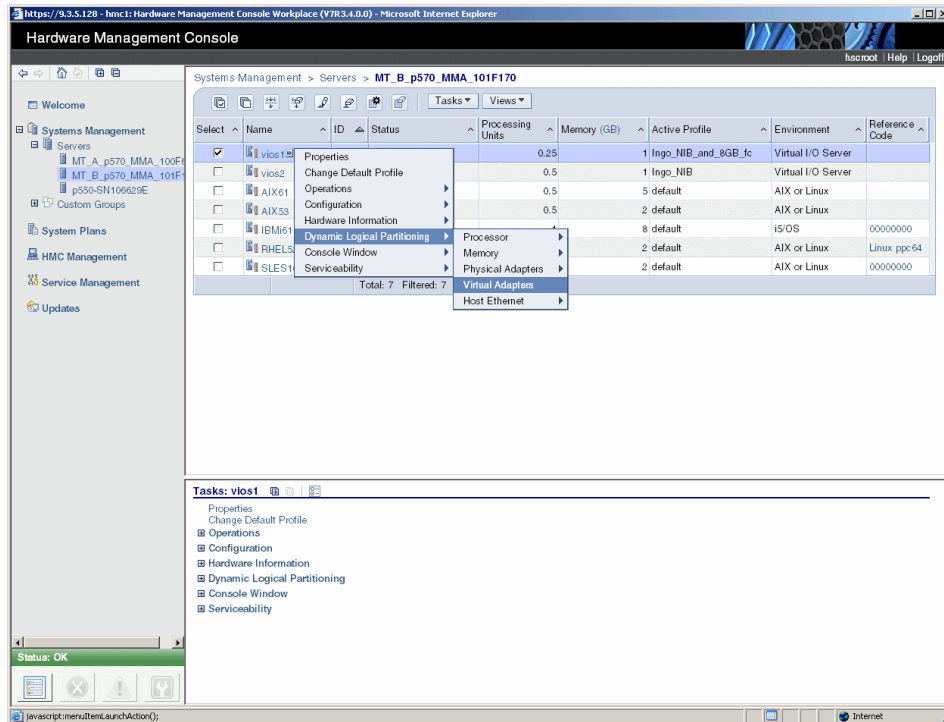

Figure 6-23 Add virtual adapter operation
2. On the **Tasks** menu on the right side of the window choose **Dynamic Logical Partitioning** → **Virtual Adapters** → **Add** as shown in Figure 6-23.